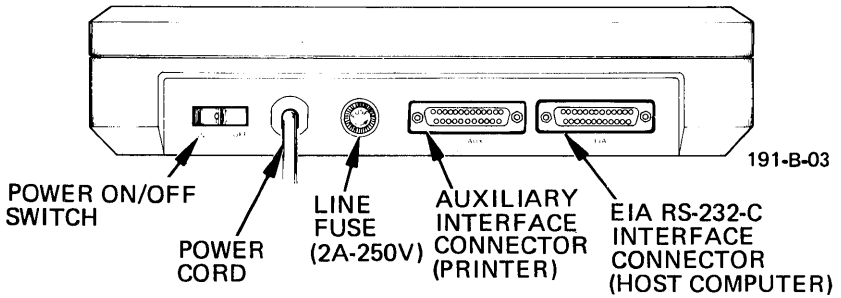

Figure 2-2. The Rear Panel of the Display Module Pedestal
1. Verify that the power switch on the rear panel of the display module pedestal is in the OFF position. The rear panel of the display module pedestal is illustrated in Figure 2-2.